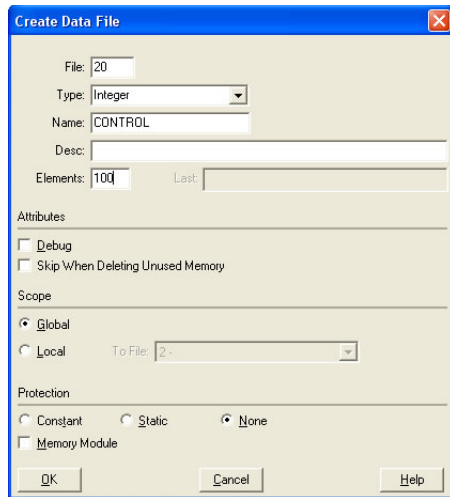

Figure 66: Creating a Control File
- a) Right click Data Files and select New... The “Create Data File” dialog box appears (refer to Figure 66).